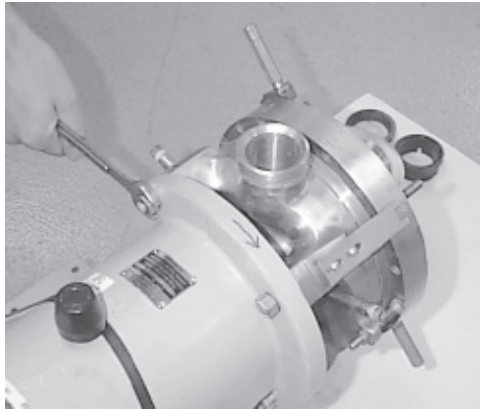

Figure 22 - Remove body nuts (4)
2. Remove the four body nuts (Figure 22).